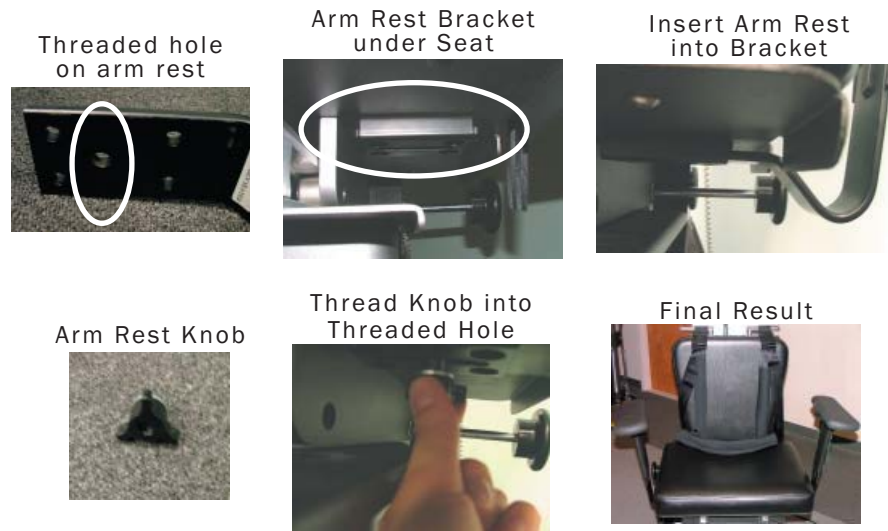

Figure 1-9. Attaching the Arm Rests
Step 7. Locate the arm rests, note which is labeled left and which is right, and attach them to the seat on the appropriate sides (Figure 1-9). Note that the armrest is inserted below the plastic piece that is within the bracket.